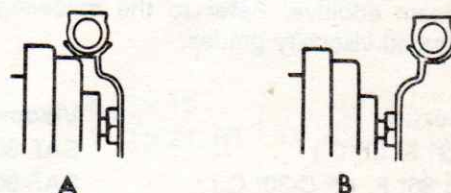

Figure 2
Position the wheel and disc as shown in (A), Figure 2, to obtain the 45 inch (114 cm) setting. Position as shown in (B) to obtain the 52 inch (132 cm) setting. Tighten the wheel disc retaining bolts, 70-85 lbs. ft. (93-118 Nm).